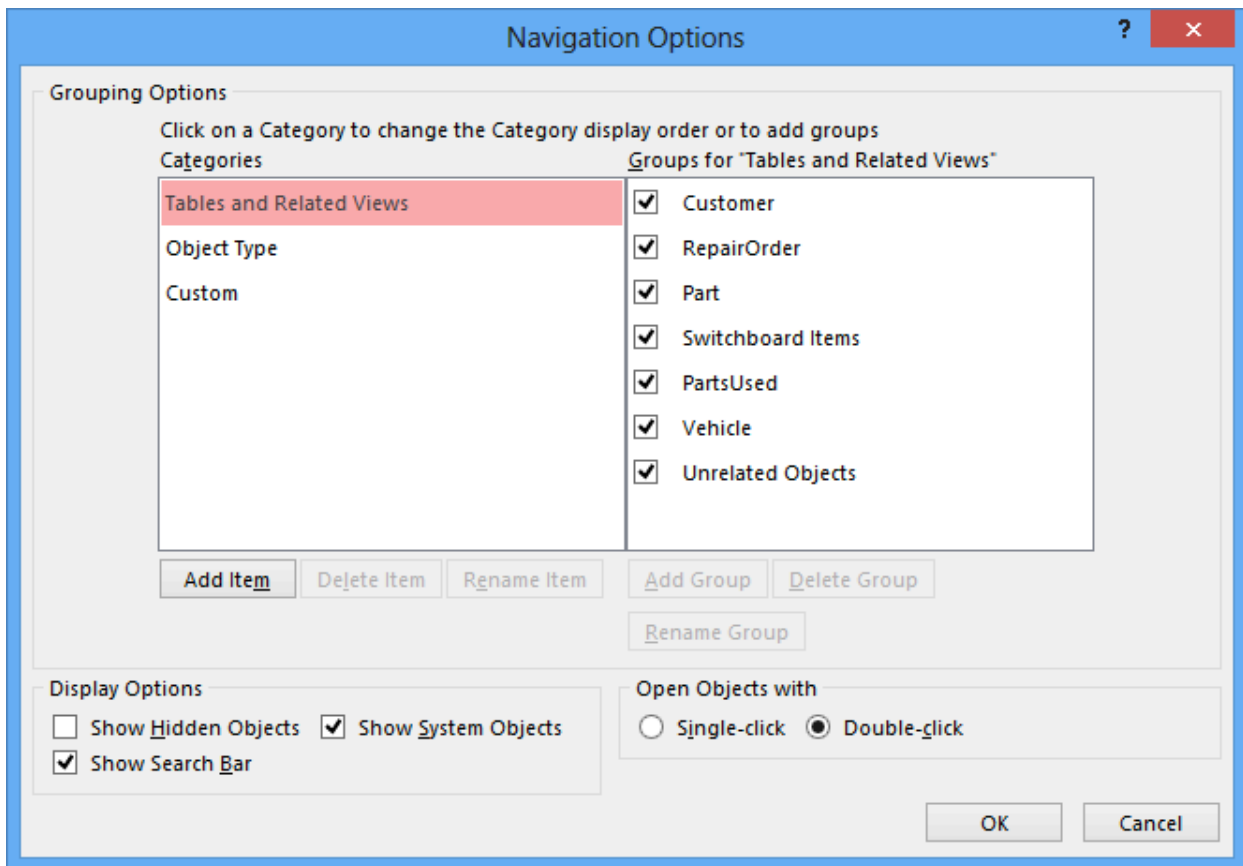

Figure 54: Navigation Options Window with Show System Objects Checked
7. Test the *After Update* Macro: After saving the macro and *Part* table (in Design view), you should test the macro. Update the *UnitPrice* column in an existing *Part* row with a larger value (5 to 10 percent larger) than the previous value. To see the log row, you need to change the options in the Navigation pane. Right click in the Navigation pane and select **Navigation Options ...** to display the Navigation Options window. Check the Show System Options check box as shown in Figure 54. Open the *USysApplicationLog* table in datasheet view. You should see a row in the *USysApplicationLog* table with the message in the *Description* column.